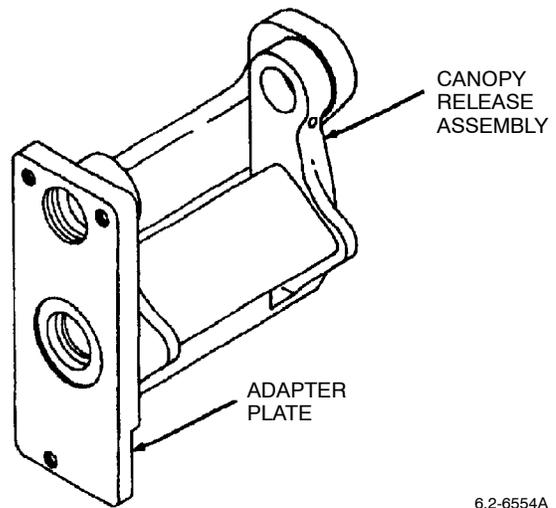

Figure 14. Align Canopy Release
- b. Align canopy release with adapter plate (right hand shown) (Figure 14).